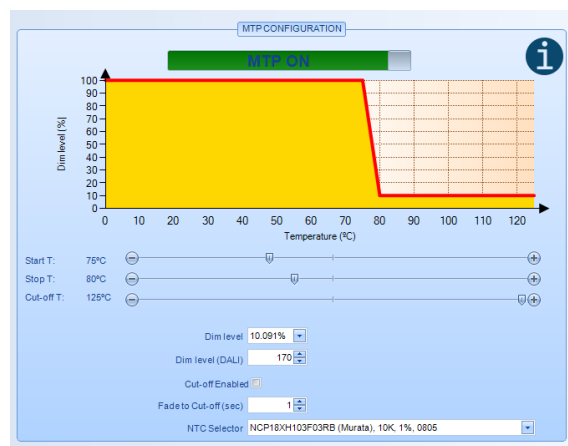

Fig. 11- MTP without cut-off temperature
- **Without cut-off temperature** (Fig. 11).